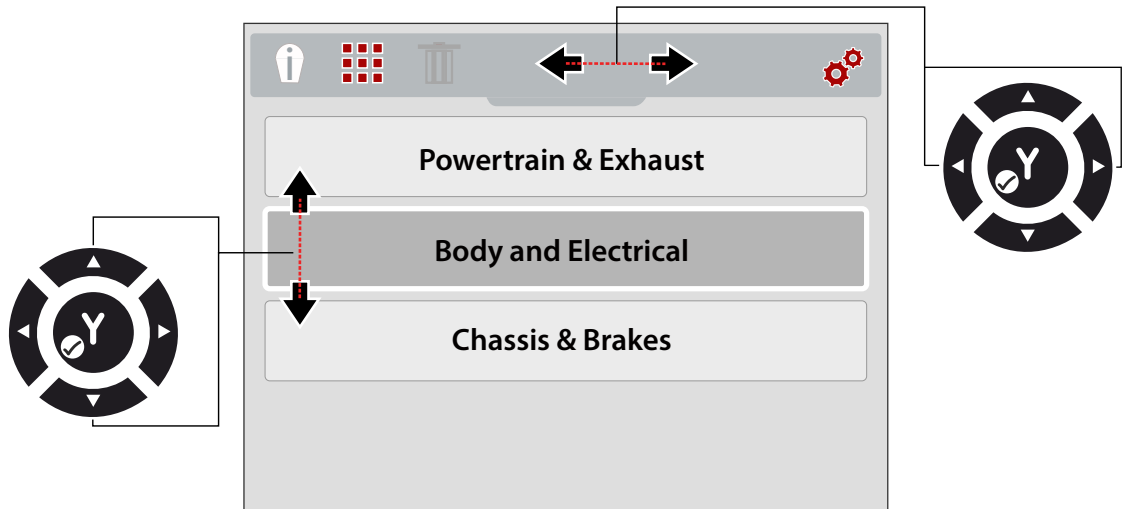

Figure 3-4
- 2. To select an option from the toolbar, press the **Left** and **Right** (arrow) directional buttons (Figure 3-4).
4. To select a menu option, press the **Up** and **Down** (arrow) directional buttons (Figure 3-4).